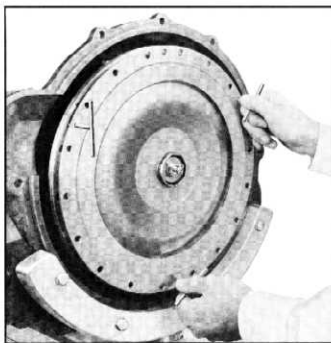

Fig. 65—Removing Turbine and Cover Assembly
4. After all retaining bolts have been removed, screw three 10-32x2" "T" screws, into three tapped holes in turbine cover to loosen cover and remove cover and turbine assembly (fig. 65).